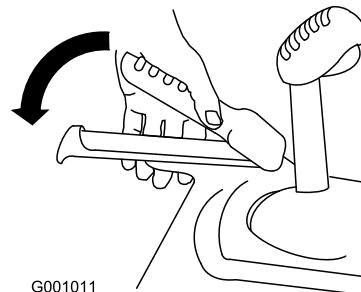

Figure 28
- To engage the traction drive, squeeze the left hand (traction) lever to the handgrip (Figure 28).